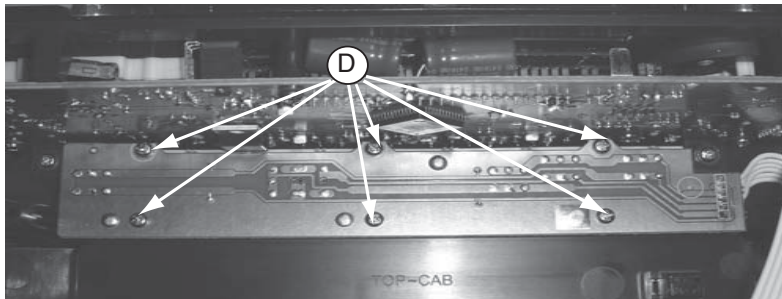

Figure 4
- 1) Loosen 6 screws "D" on the bottom of Key board as shown in figure 4.